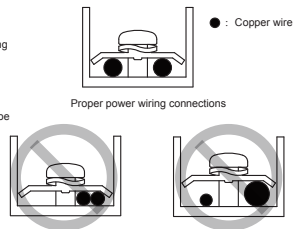

Figure 6.4
- Do not connect two power cords with different diameters to the same power supply terminal (may cause overheating of wires). See Figure 6.4.